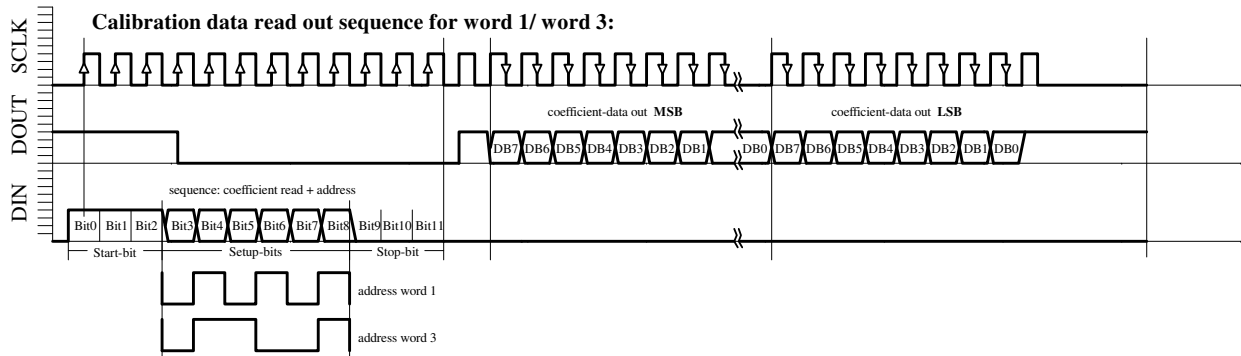

Fig. 6c: W1, W3 READING sequence
- Calibration data read-out sequence for Word 1 (Figure 6c)
- Calibration data read-out sequence for Word 3 (Figure 6c)